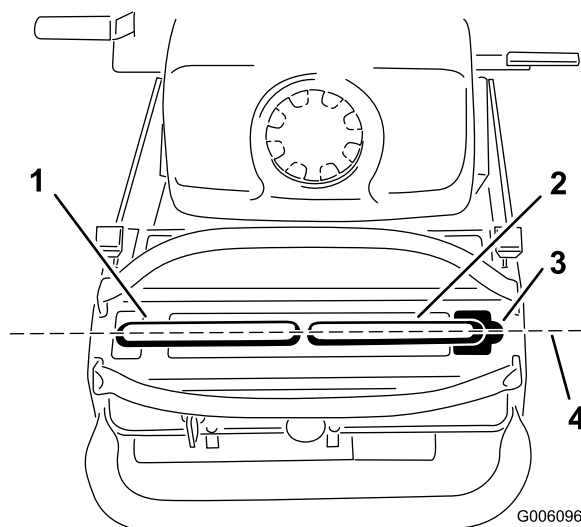

Figure 56
Important: Ensure that the tracking of the mower is correct after adjusting the motion-control levers. After adjusting the tracking, the motion-control levers may not align exactly from front to back (Figure 56).
1. After the horizontal alignment is finished, check the front-to-back alignment (Figure 56).